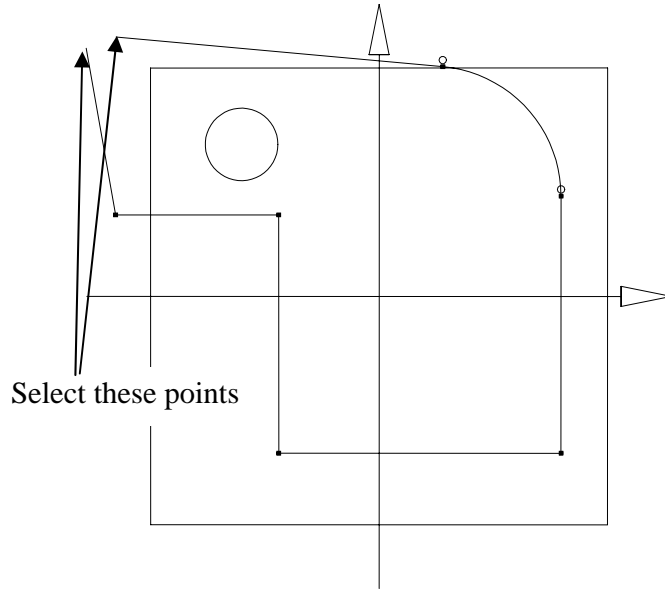

Figure 24
- Select the two points as shown in Figure 24.
- Select the two entities labeled “pick here” in Figure 24. A list of constraints will appear, including the “Point on Curve” constraint. It does not matter which entity is selected first.